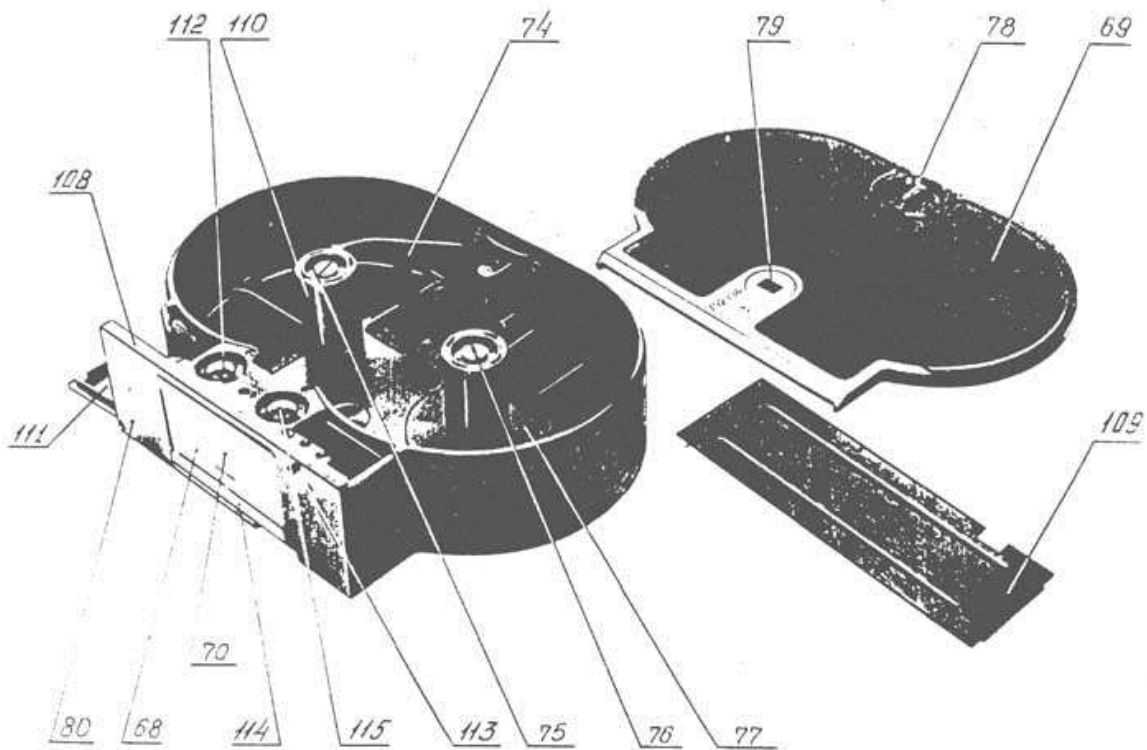

Figure 10
Mags (figures 10,11) have capacity of 60m and 120m (200ft and 400ft).
The mag has film channel (66) (figure 10), a mechanism and a cover (69).
The counter works from the lever (74) (figure 10).